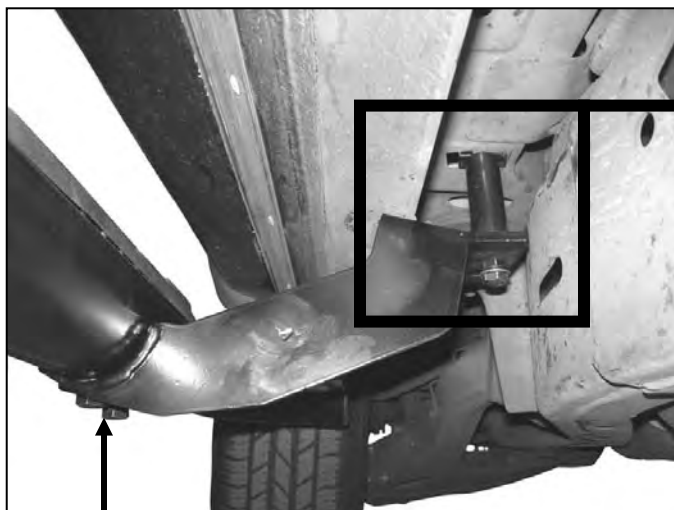

Figure 6
3. Partially hang driver front Mounting Bracket (again refer to figure above for bracket configuration) to pinch weld using (1) 10mm x 30mm Hex Head Bolt, (1) 10mm Hex Nut, (1) 10mm Lock Washer, and (1) 10mm Flat Washer (**Figure 6**). **NOTE:** If vehicle is equipped with factory running boards, use the factory bolt to attach Mounting Bracket to pinch weld.
4. Place (1) 65mm (smaller) Tube Spacer between the Mounting Bracket and the already installed Clip Nut. Insert (1) 10mm x 100mm Hex Head Bolt through tab on the Mounting Bracket and Tube Spacer and to Clip Nut (**Figure 6**). Do not tighten at this time.
6. Once all three Mounting Brackets are partially mounted, carefully position driver Sidebar onto Mounting Brackets. Attach Sidebar to Mounting Brackets using (4) 10mm x 30mm Hex Head Bolts, (4) 10mm Lock Washers, and (4) 10mm Flat Washers (**Figure 6**). **NOTE:** Rear Mounting Bracket uses (2) bolts to mount to Sidebar, center and front Mounting Brackets use (1) bolt each. Do not tighten at this time.